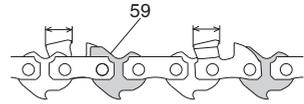

Fig. 42
- Do not smoothen the upper part of the bumper drive links (59) with a file or deform them. (Fig. 42)
- 5) Keep all cutters the same length. (Fig. 42)